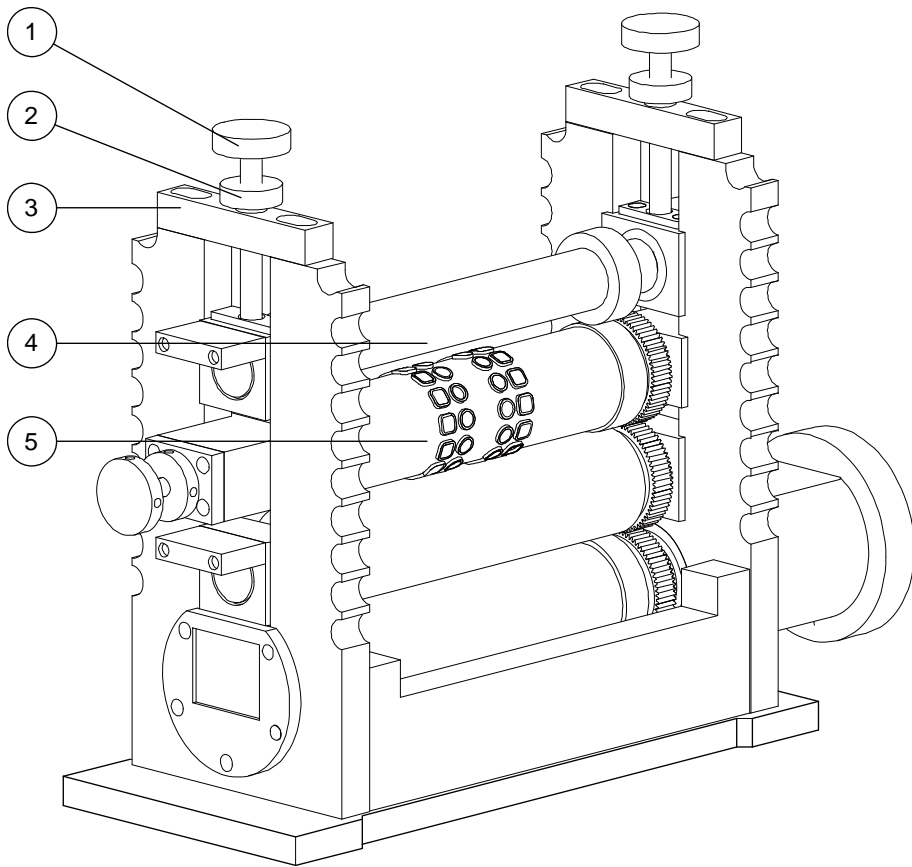
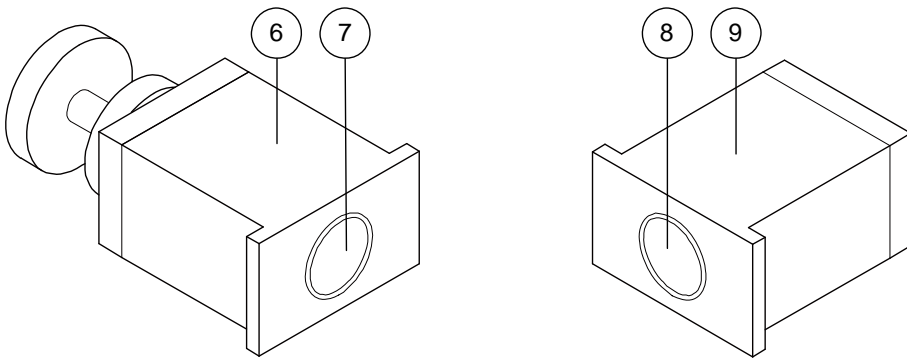
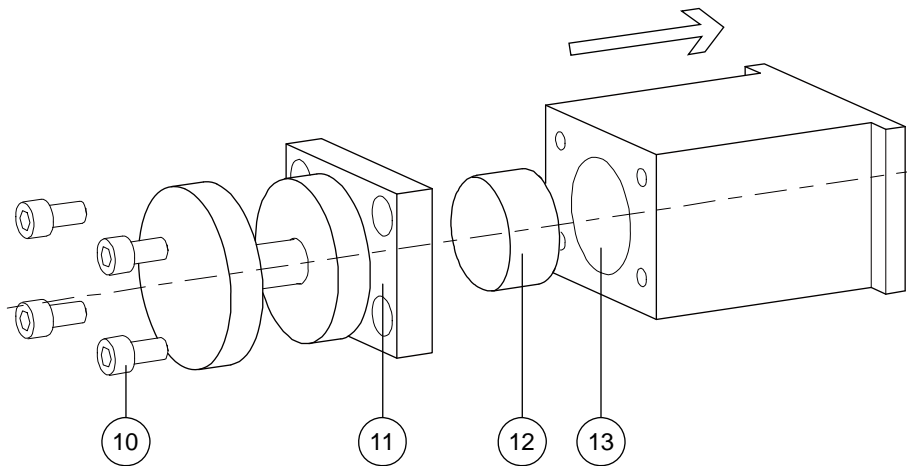
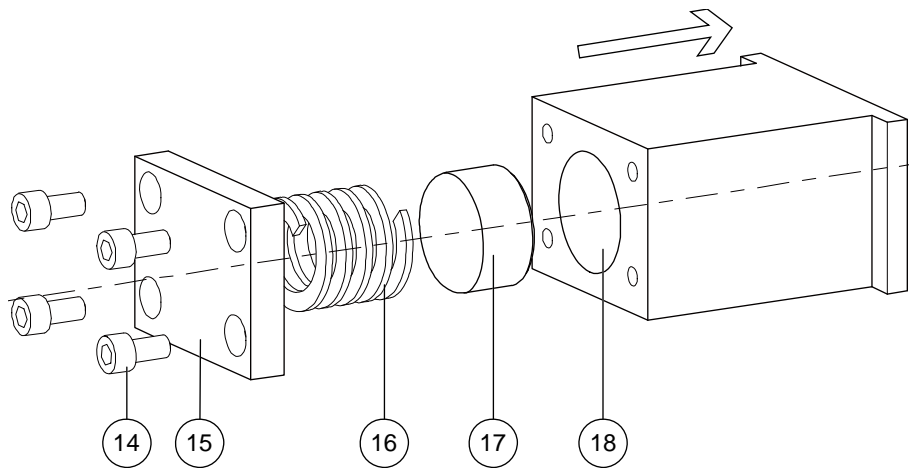

Figure 8-7 Removing die cutter assembly
Figure 8-8 Measuring adjustable die housing bearing
Figure 8-9 Replacing adjustable die housing (outer side) bearing
Figure 8-10 Replacing adjustable die housing (inner side) bearing
The method of replacing adjustable die housing bearing is shown in Figure 8-7, Figure 8-8, Figure 8-9 and Figure 8-10.
(10) Screw (11) Cover (12) Support block (13) Hole
Step 7: Remove screw with (10) 5# allen wrench;
Step 8: Remove cover (11) and support block (12);
Step 9: Remove bearing from hole (13) with $\Phi 27$ mm copper rod and rubber hammer according to the direction shown in Figure 8-9, and replace a new one;
(14) Screw (15) Cover (16) Return spring (17) Support block (18) Hole
Step 10: Remove screw (14) with 5# allen wrench;
Step 11: Remove cover (15), return spring (16) and support block (17);
Step 12: Remove bearing from hole (18) with $\Phi 27\text{mm}$ copper rod and rubber hammer according to the direction shown in Figure 8-10, and replace a new one;